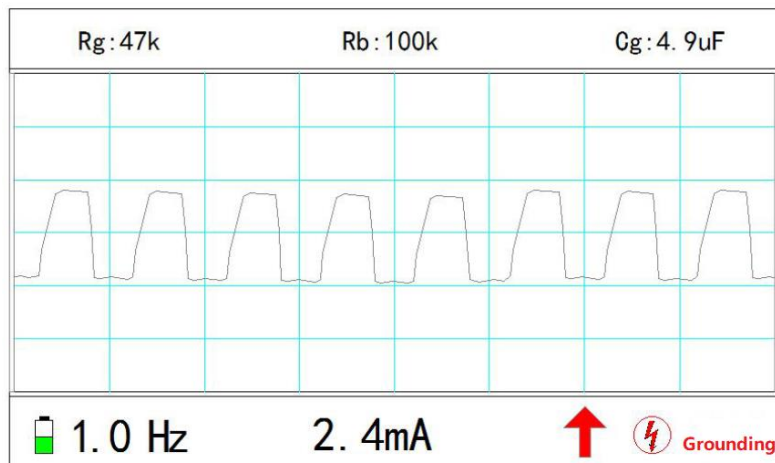

Figure 4.2 Current Waveform Mode fault display
After pressing the start-stop button (figure 2.2 ⑧), the receiver sends instructions to the transmitter. The transmitter will then start to output a high voltage at a frequency chosen automatically, depending on the DC fault impedance and the distributed capacitance to ground. The lightning icon ⚡ at the lower right of the receiver display (figure 4.2) flashes, to indicate that injection is in progress; the value of the faulty bus injection current is also updated in real time.
The receiver will determine the presence of a fault based on the amplitude of the waveform. If there is a fault, the pulse waveform will appear as in figure 4.2. and an audible alarm will be heard.